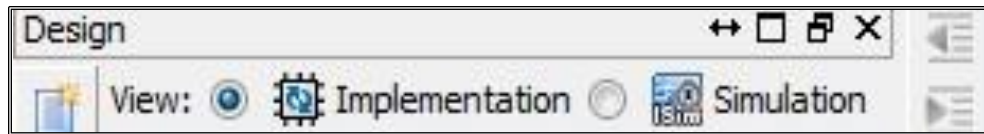

Fig 5.7: Design Implementation
- For the implementation of the design, select **Implementation** Button in the Hierarchy window on the left pan (Fig 5.7).